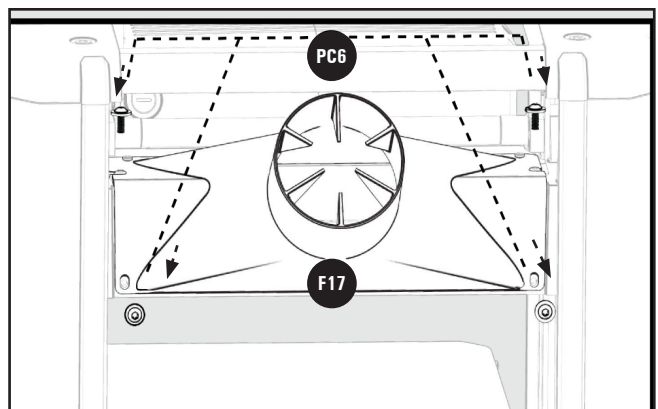

FIGURE 8
4. Align the four slots in the dust collection attachment **F17** with holes in the frame, see Figure 8. Secure using four M6 x 20mm Torx screws **PC6** and flat washers **PC7** (two from step 2).